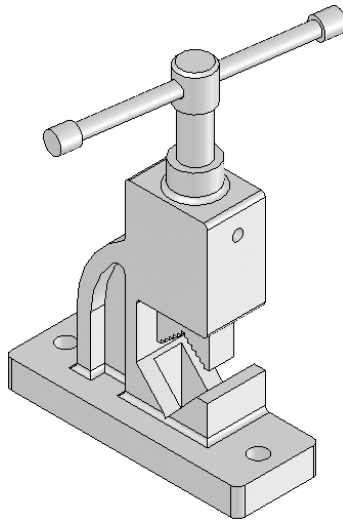

Figure 12-82 Final Pipe Vice assembly
- Place the other components in the assembly and apply the required mates to the assembly, refer to Figure 12-82.
20. Similarly, assemble the other components of the Pipe Vice. Figure 12-82 shows the final Pipe Vice assembly.